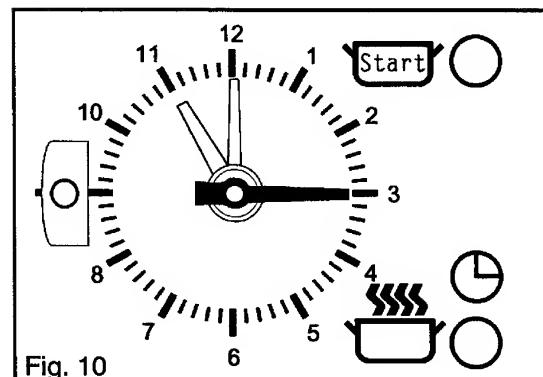

Fig. 10
- vii) The start time indicator (E) will move with the hour hand of the clock until the length of cooking time is complete. A buzzer will sound which can be cancelled by following point 4 as Fig. 10.